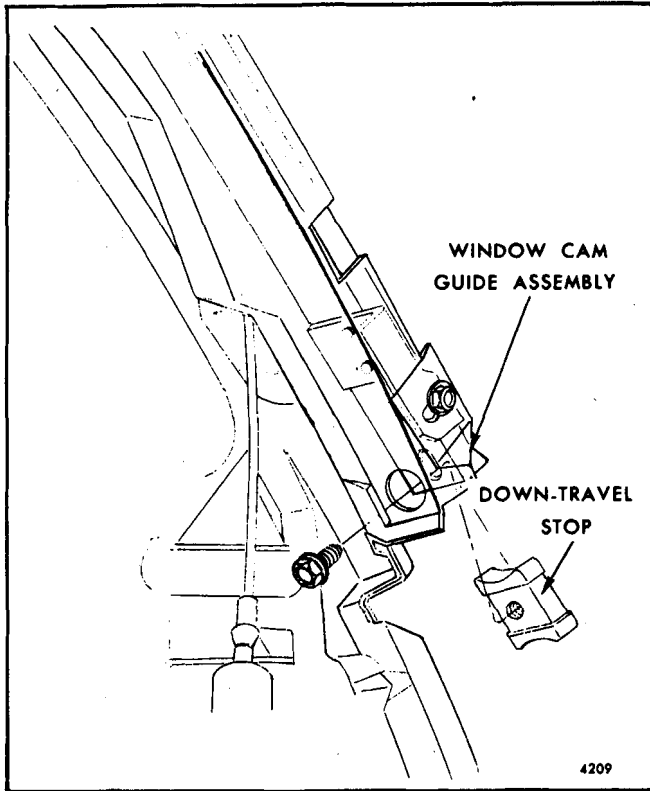

Fig. 9-9-Tail Gate Window Down-Travel Stop
7. Remove window down-travel stop from lower end of right and left window cam guides (Fig. 9-9).
Window down-travel is controlled by an adjustable stop in the lower end of the window right and left cam guides (Fig. 9-9).